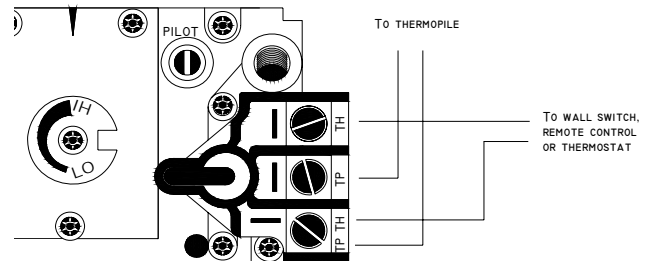

Fig. 44 – Gas Valve Connection
2. Connect the wires to the gas valve (see figure 44).